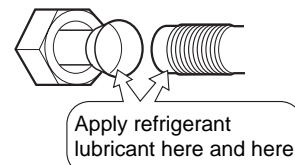

Fig. 7-4
- (1) Apply a sealing cap or water-proof tape to prevent dust or water from entering the tubes before they are used.
- (2) Apply refrigerant lubricant to the matching surfaces of the flare and union before connecting them together. This helps to reduce gas leaks. (Fig. 7-4)